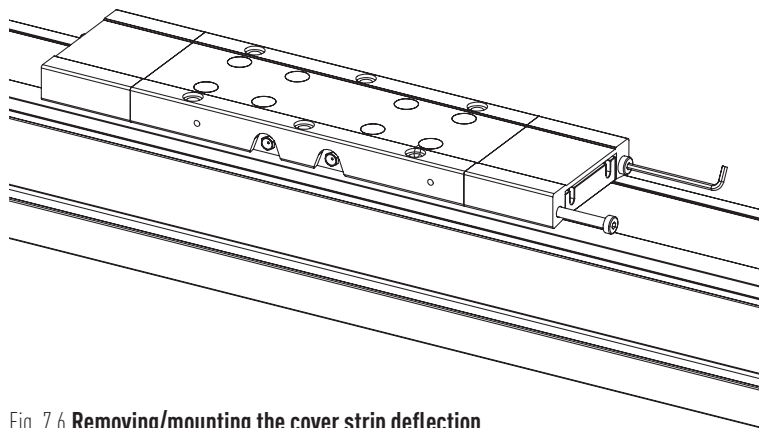

Fig. 7.6 **Removing/mounting the cover strip deflection**
- ▶ Undo the cover strip deflection screws. Remove the cover strip deflection from both ends of all carriages (see Fig. 7.6).